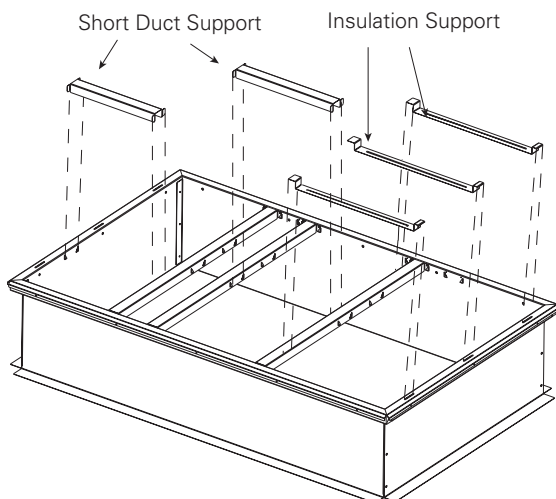

Figure 3. Step three
5. Locate the position for the short duct support, 10.49" from the side, that fits between the first long duct support and the end. Insert the support flanges into the appropriate corner catches. Verify the 10.49" dimension. See Figure 3, p. 5
6. Insert the second short duct support between the middle and left long duct supports. Verify the 17.84" dimension from the duct support to the side. See Figure 3, p. 5
7. Insert the three (3) insulation supports between the left end and the closest long duct support, being sure to insert the tabs into the slots in the top of the end piece. See Figure 3, p. 5.